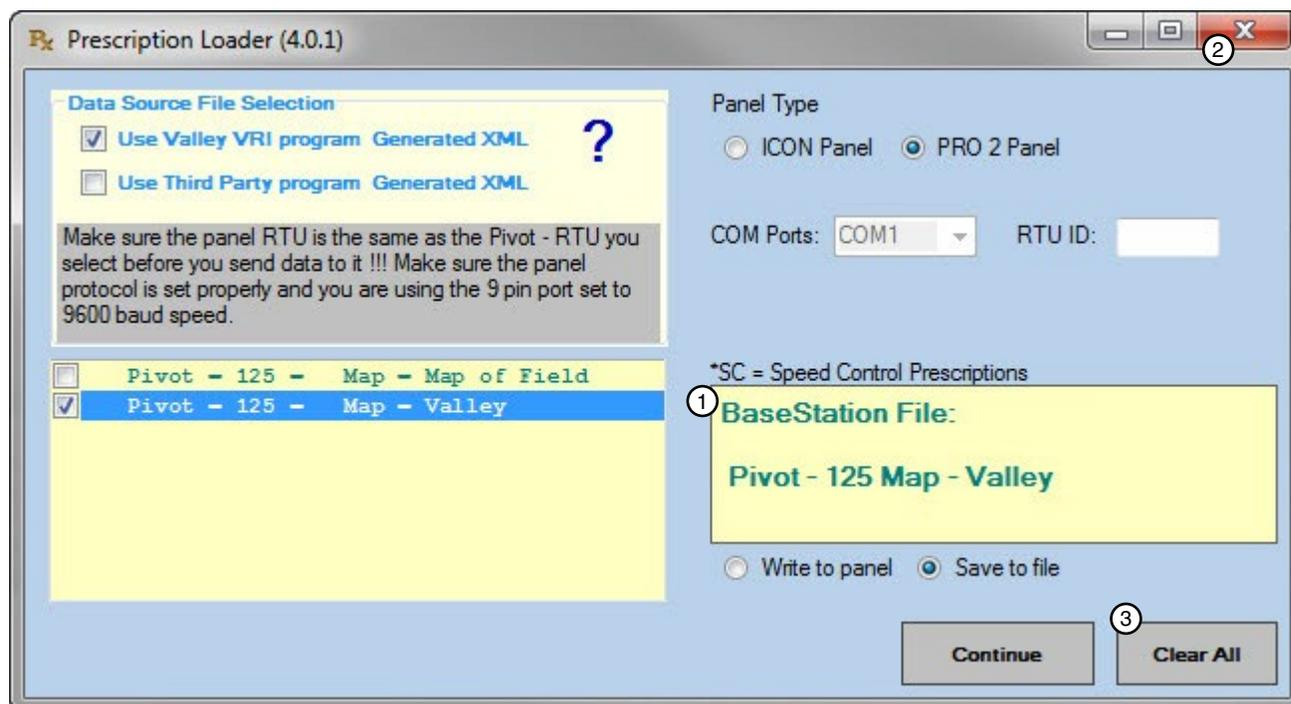

Figure 45-2 1. File Stored Indicator
12. Clicking **Clear All** removes all selections you have made on the screen. See Figure 45-2.
13. Click the **Close** button on the Prescription Loader screen to exit the Prescription Loader application. See Figure 45-2.